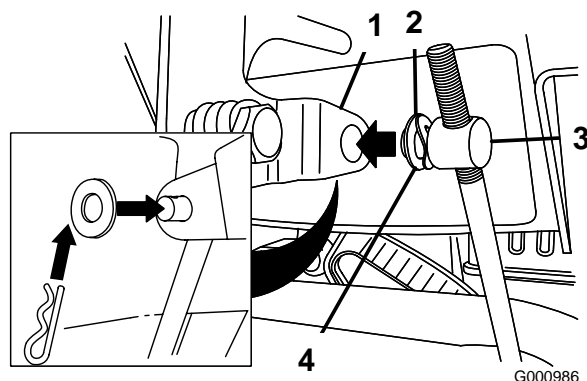

Figure 11
3. Remove the hairpin cotter and the outer washer from the trunnion on the upper end of the speed control rod (Figure 11).
Note: To make installation easier, leave the wave washer and the flat washer on the trunnion (Figure 11).
6. Lift up on the speed control rod and insert the trunnion into the hole in the speed selector lever (Figure 11).